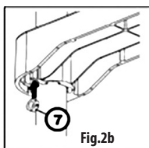
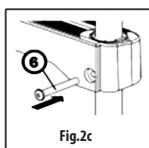

Fig. 2b
Fig. 2c
Slide the treads along stiles so that the holes for screws fit well with the holes in stiles. Put the nut (7) (**Fig. 2b**) into the groove made in tread lower surface and fix the tread with screws (6) (**Fig. 2c**).